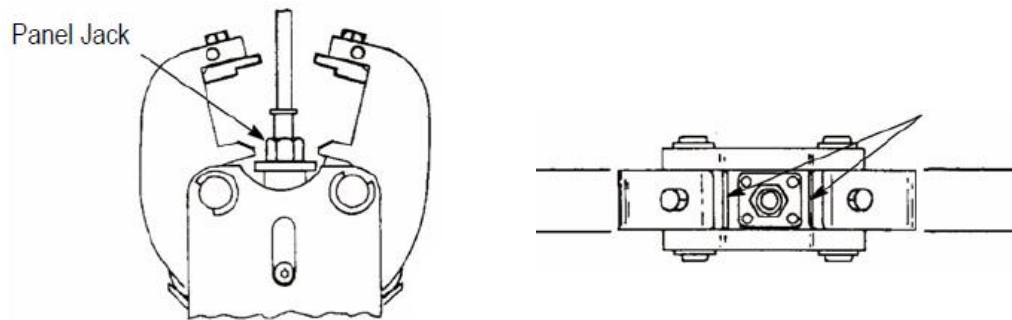

Figure 9
If crimping a panel jack to the cable, the sides of the panel jack should align with the tool jaws as shown in Figure 9.
3. Support the cable-and-connector assembly, and squeeze the tool handles to complete the crimp as shown in Figure 9.